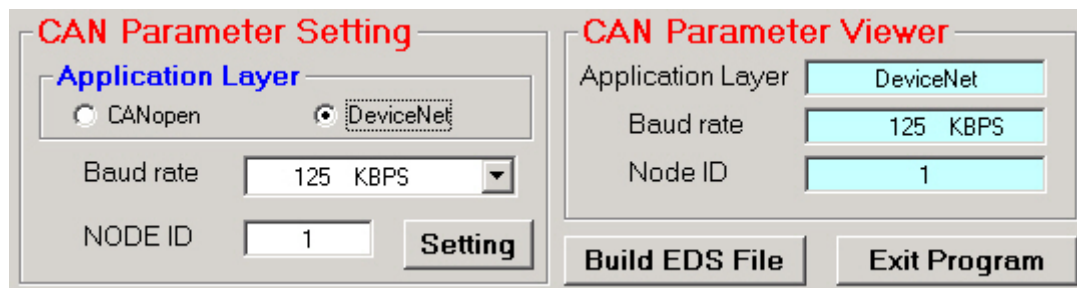

Fig 5-21
Step 6: Click the “CAN Channel” button,  so that the CAN bus configuration information will be given. Then, users can set the necessary CAN bus communication information. Afterwards, click the “Setting” button to finish the CAN parameter setting. The CAN Parameter Viewer frame on the right hand side indicates the parameter setting result. After clicking the “Setting” button, users can see that the each field value of the CAN Parameter Viewer frame is changed to the value configured in the CAN Parameter Setting frame on the left hand side as Fig 5-21.